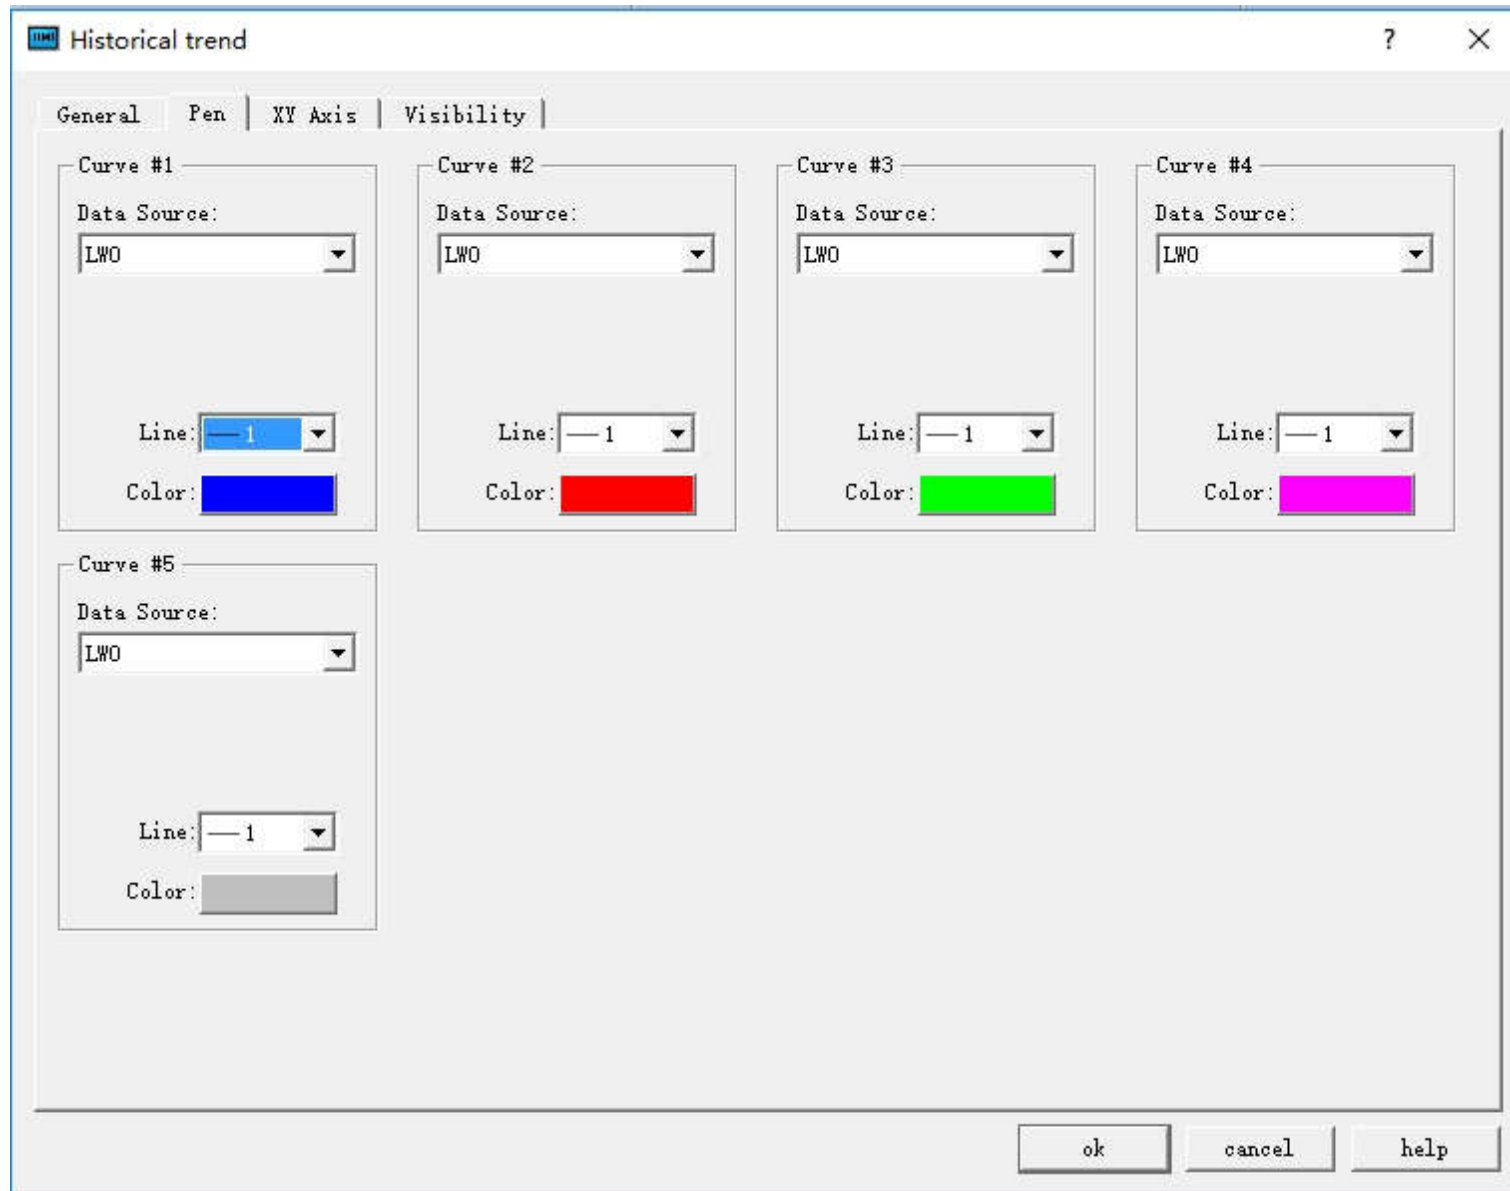

Figure 4-49 Pen tab of Historical trend
2. The "Line" page of the historical trend graph is shown in Figure 4-49.